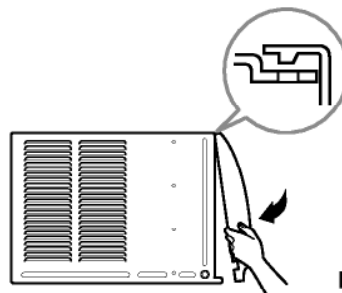

Figure 32
2. Attach the front grille to the cabinet by inserting the tabs on the grille into the tabs on the front of the cabinet. Push the grille in until it snaps into place. (See Figure 32)